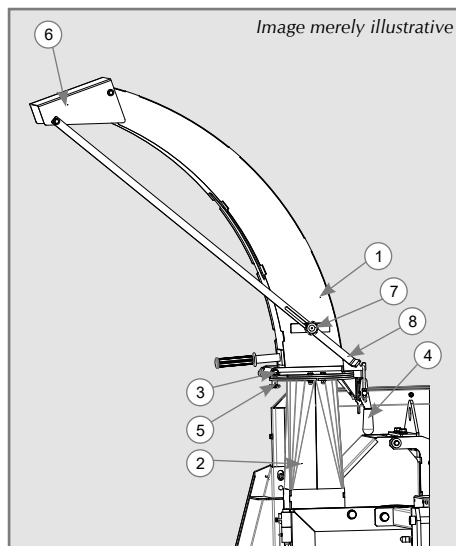

Figure 17
- ✓ Position the nozzle (1) over the outlet duct (2) and tighten the screws (3), securing the nozzle; then, fix the safety lock (4). Whenever you wish to direct the nozzle, loosen the knob (5), turn the nozzle to the desired position, and retighten the knob. To adjust the position of the jet break (6), release the knob (7), move the regulating rod (8), and retighten the knob (7) upon reaching the desired position, as per Figure 17.